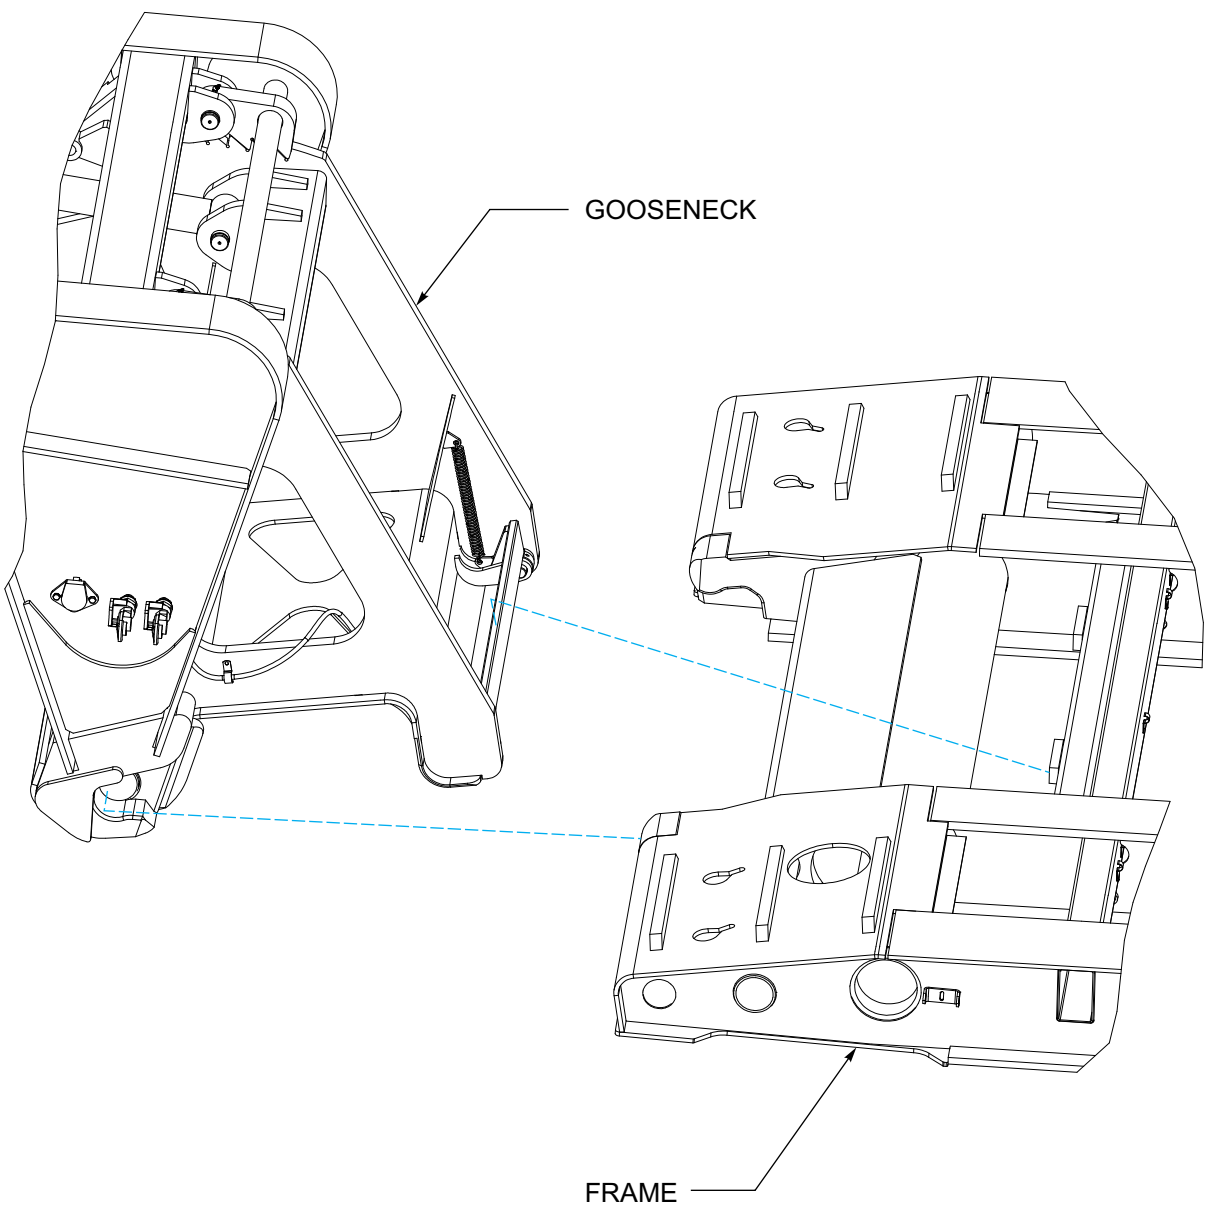

Figure 3-5: Gooseneck Attachment to Frame
2. Park the tractor/semitrailer in a straight line on level even surface. Set the tractor brakes and release the semitrailer brakes (**See Figure 3-5.**)